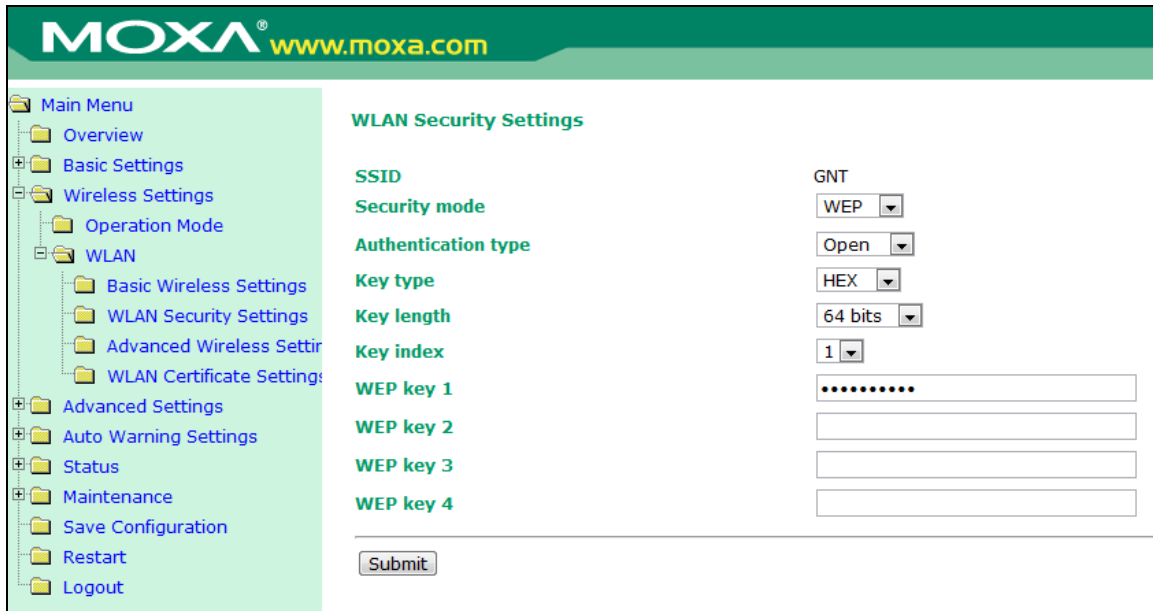

Figure 18: NPort W2150 Plus Security Properties
- i. Set **Network Type** to Infrastructure Mode or Ad-hoc Mode. Devices that are configured for Ad-hoc Mode automatically detect and communicate directly with each other and do not require a wireless access point (AP) or gateway. Wireless devices that are configured for Infrastructure Mode do not communicate directly with each other, but through a wireless access point (AP).
- iii. Set Profile1's **Security Properties** (Figure 18). If Moxa AWK-4121 access points are used and WDS mode is employed, only WEP shared keys are permitted.